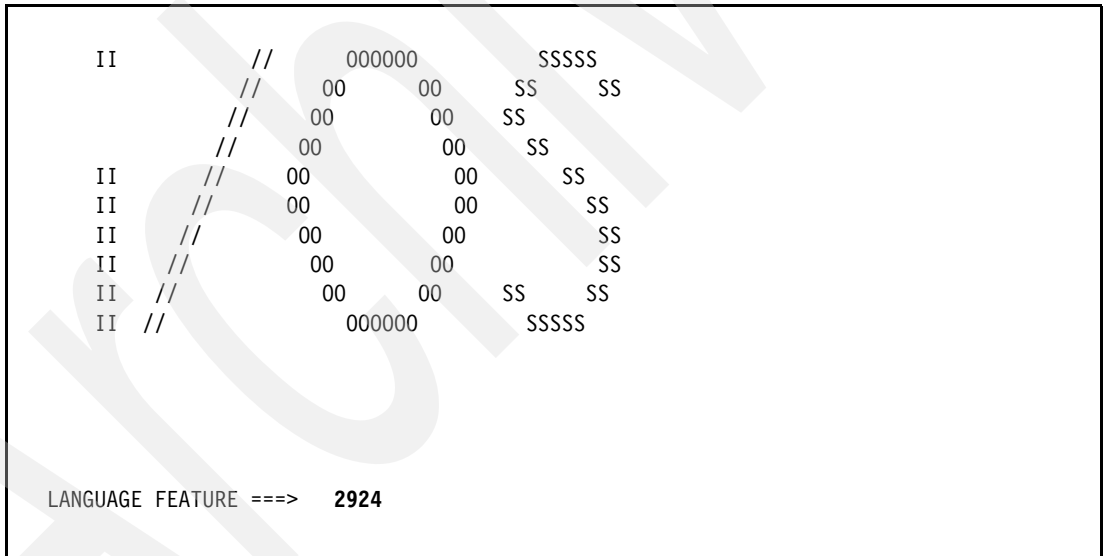

Figure 6-65 IBM i language feature panel
4. After the IBM i partition has booted from the I\_BASE CD-ROM we enter the language feature code 2924 (English), as shown in Figure 6-65.